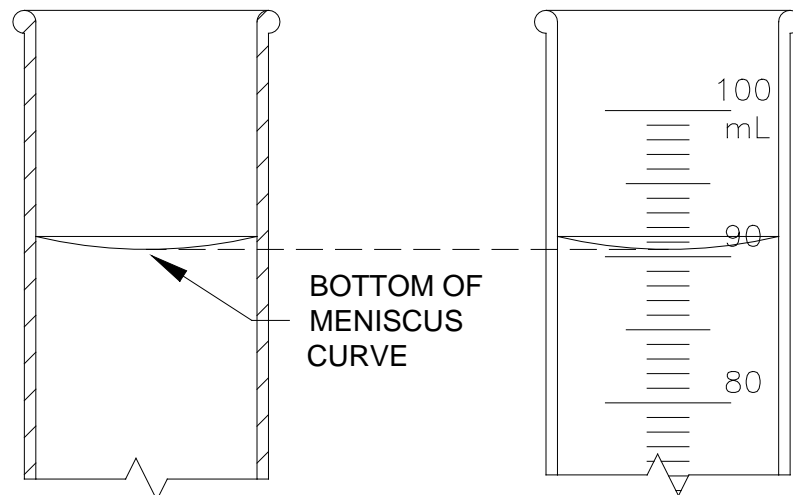

Figure 1. Meniscus Curve.
- Surface tension causes the fluid to curve into a meniscus (See Figure 1). Measure the volume at the bottom of the meniscus curve as shown.